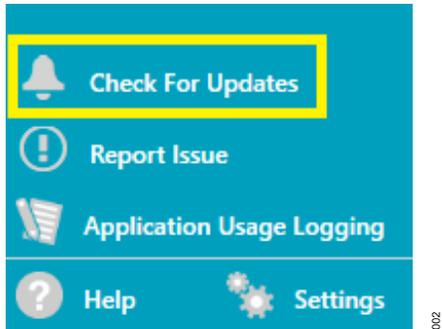

Figure 2. Check For Updates Option in the ACE Sidebar
1. Download and install the ACE Software tool from the ACE download page, as per the Installing the ACE Evaluation Software section. If ACE is already installed, make sure you have the latest version by using **Check For Updates** option in the ACE sidebar, as shown in Figure 2.